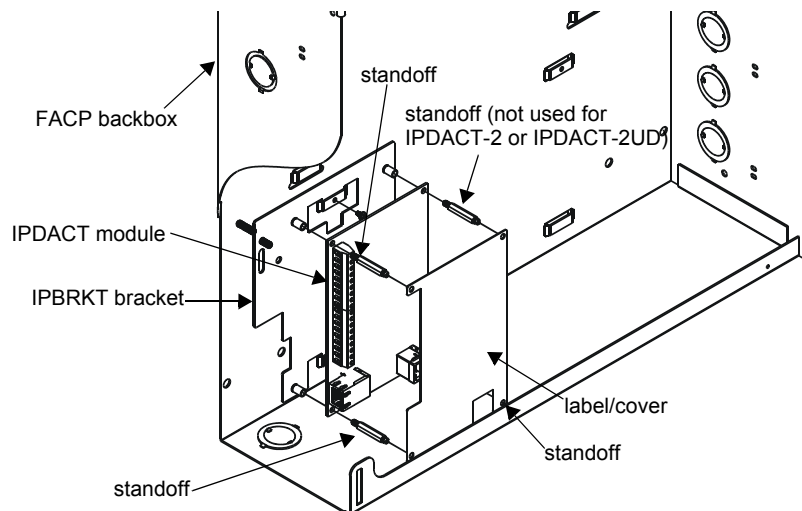

Figure 3 IPBRKT Installation
3. Secure IPDACT Module to IPBRKT bracket using the four supplied standoffs as illustrated in Figure 3.